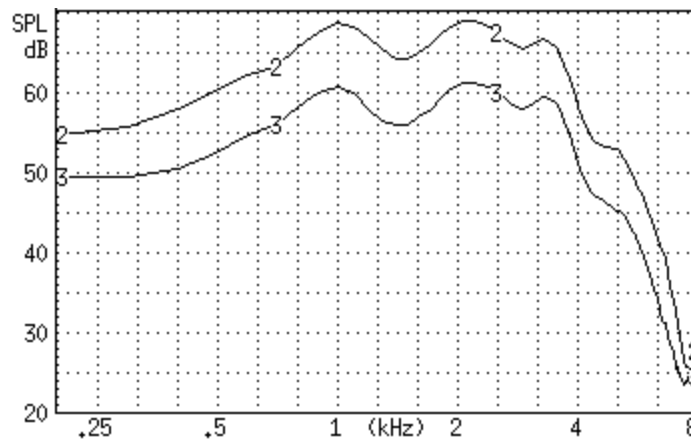

Figure 8.5.4—Testing noise suppression of a digital hearing aid. REAR 2 was tested using Digital Speech. REAR 3 was tested using the Composite Signal.
9. Press [START] to start the measurement. After the measurement has stabilized, press [STOP] to stop the measurement. Figure 8.5.4 illustrates an example of a digital hearing aid with noise suppression. Curve 2 shows the response of the aid to the Digital Speech curve, and Curve 3 shows the response of the aid to the Composite signal.